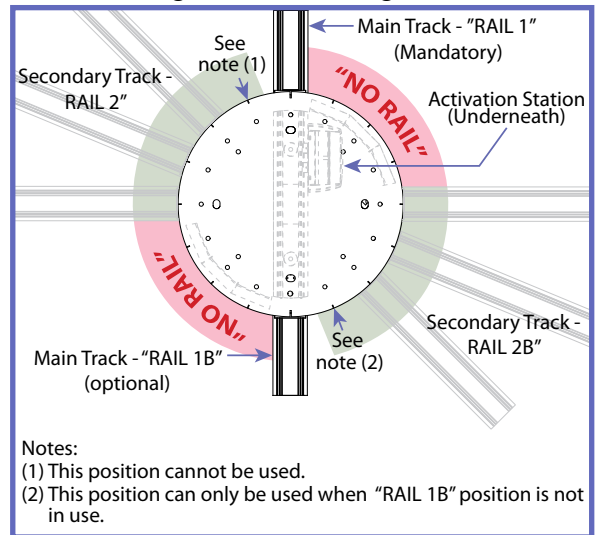

Fig. 6
3) Setup the track layout on the floor with the turntable track facing down, see Fig. 6.